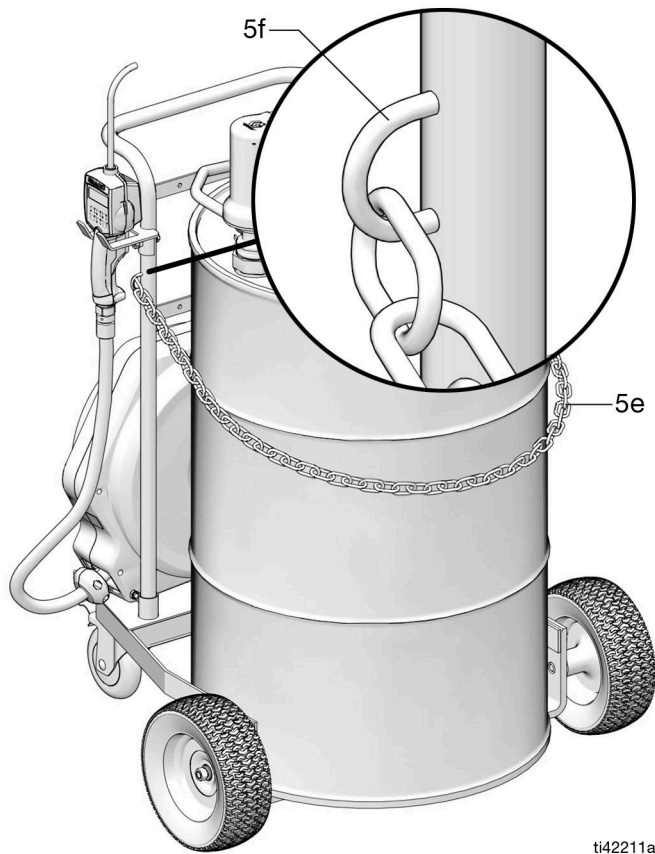

FIG. 35
- Secure a chain (5e) around the drum as shown in FIG. 35. Adjust chain to a suitable length for the drum size. Connect ends of chain to the two ear brackets (5f).